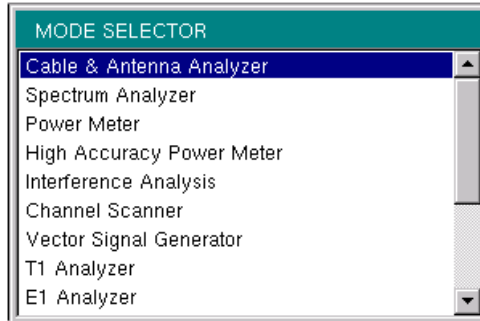

Figure 2-4. Mode Selector Menu
To access the functions under the Mode menu, select the **Shift** key, then the **Mode** (9) key. Use the directional arrow keys or the rotary knob to highlight the selection, and press the **Enter** key to select. The list of modes that appears in this menu will vary depending upon the options that are installed and activated in your instrument. Figure 2-4 is an example of the Mode menu. Your instrument may not show the same list.